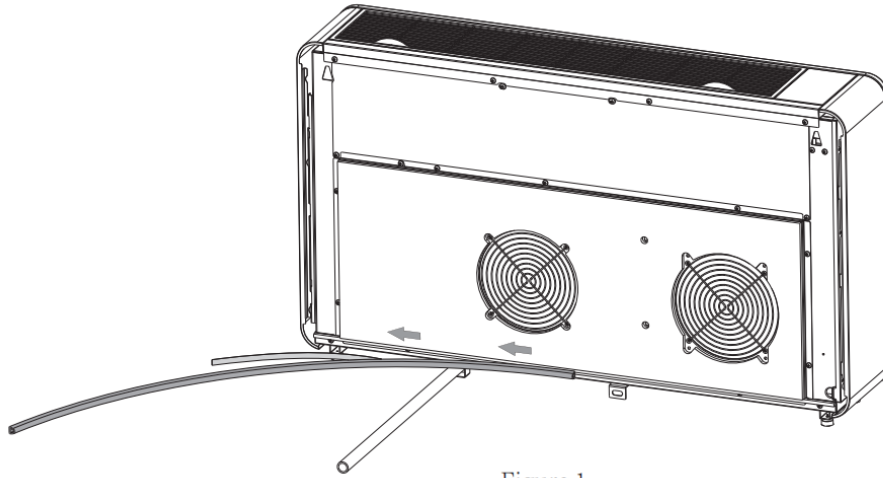

Figure 1
- 1.The sealing strip should be applied along the edge of the machine, as shown in Figure1.